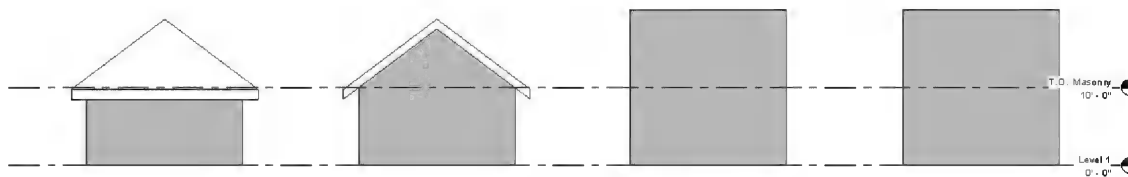

FIGURE 6-3.6 South elevation – gable roof
24. Switch to the **South** elevation view (Figure 6-3.6).